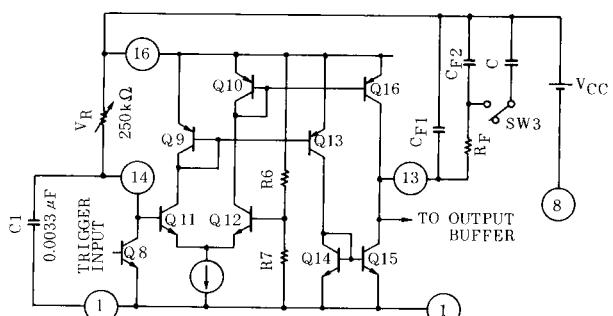

Figure 2. Sawtooth generating circuit, comparitor circuit and integrating circuit
5. Sawtooth generating circuit, comparitor circuit and integrating circuit are shown in figure 2.